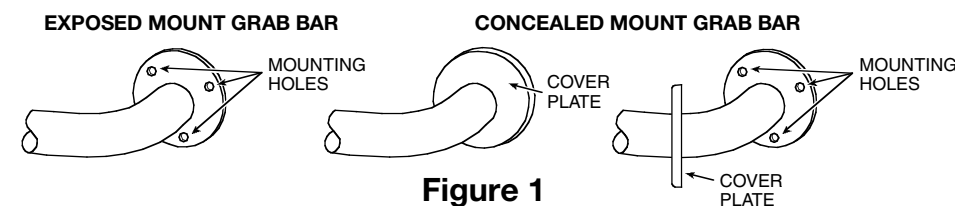

Figure 1
1. Remove the Grab Bar and parts from the package. If concealed mount Grab Bar is used, move cover plates away from mounting holes (see Figure 1).
7. If concealed mount Grab Bar is used, move cover plates over mounting holes and firmly press against the wall (see Figure 1 on page 1).